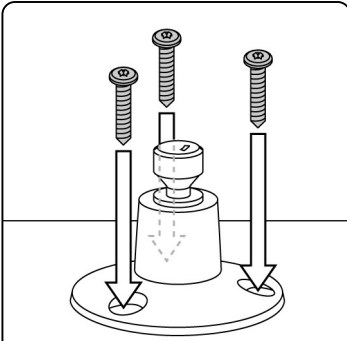

Figure 7. Attaching the mounting plate to the mounting surface
- 4) Attach the mounting plate to the mounting surface as shown in Figure 7.